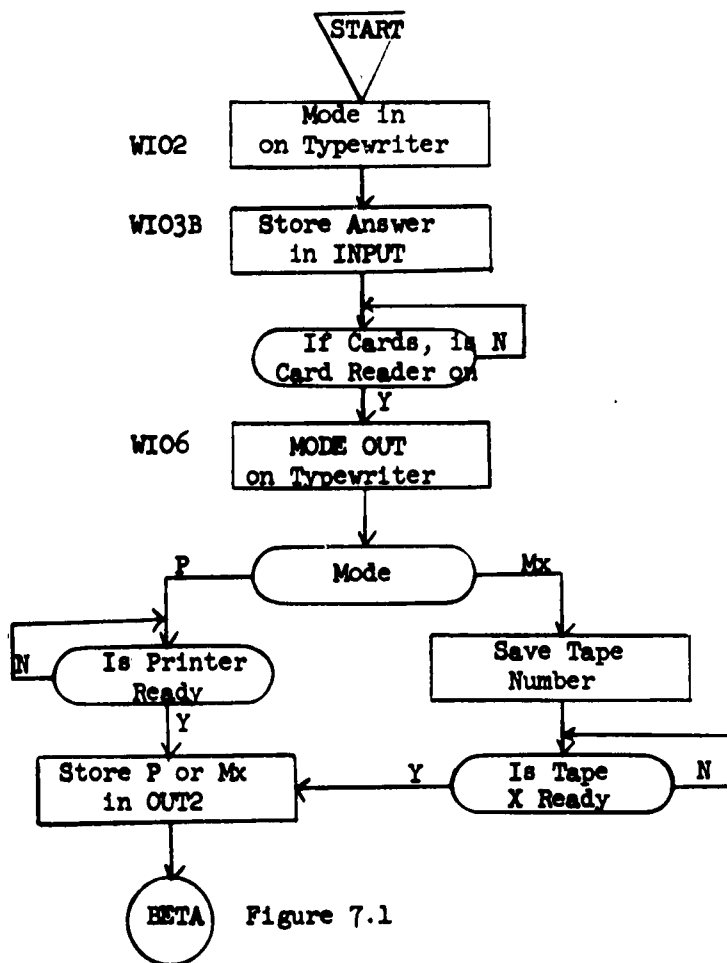

Figure 7.2 Input-Output Section
7.2.1 I-0 Section (Figure 7.2)